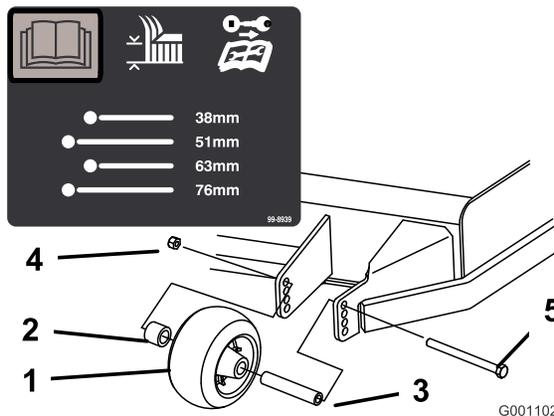
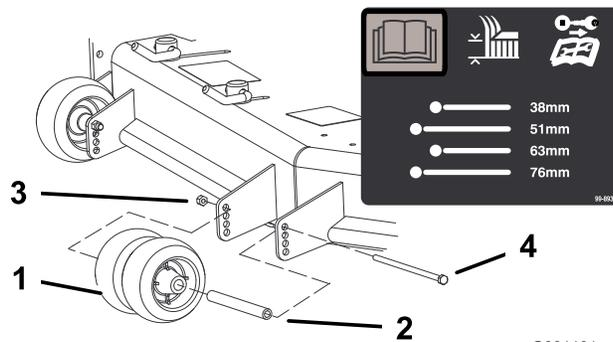
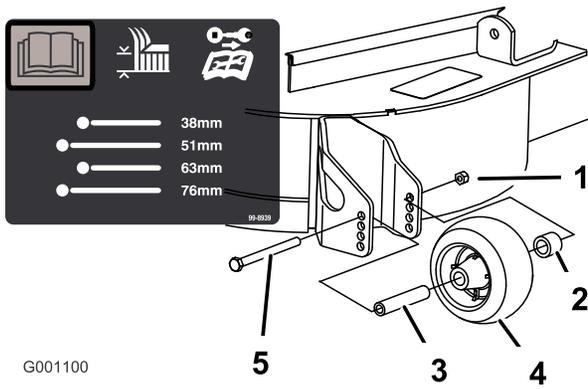

Figure 20
Figure 21
Figure 22
3. After adjusting the height-of-cut, adjust the rollers by removing the flange nut, bushing, spacer, and bolt (Figure 20, Figure 21, and Figure 22).
**Note:** The two middle rollers will not have a spacer (Figure 21).
5. Install the flange nut, bushing, spacer, and bolt. Torque to 54-61 N-m (40-45 ft-lb) (Figure 20, Figure 21, and Figure 22).